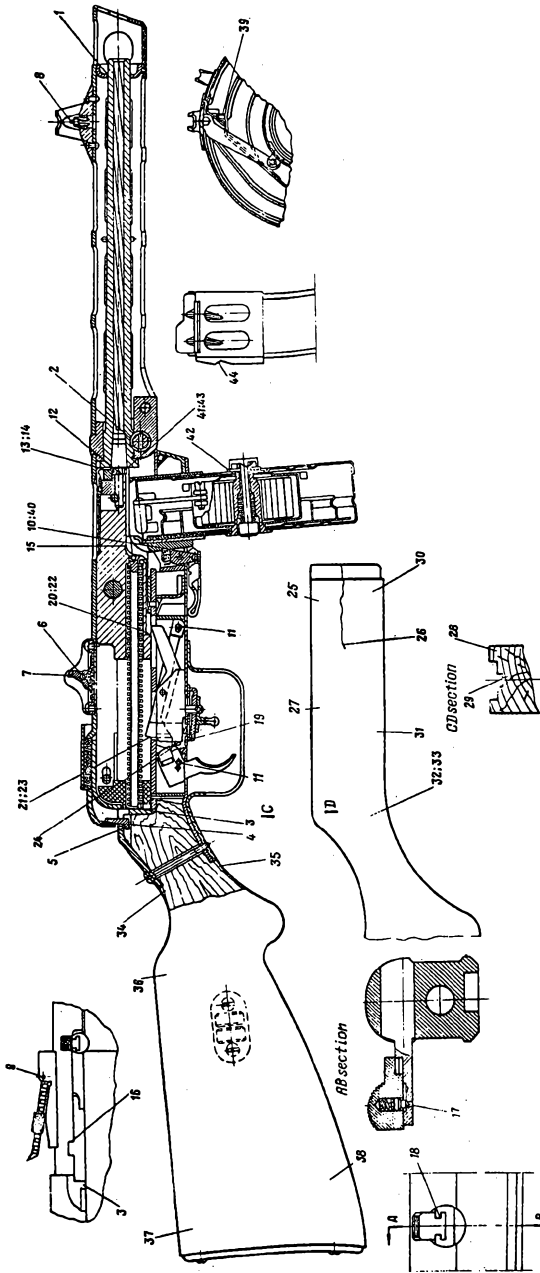

Figure 36. PPsh-41 section.
(1) First engage the lugs on the front of the trigger mechanism with the receiver; then swing the mechanism up into place. Retighten the screw.
(2) Insert the driving spring assembly into the bolt and place the buffer, flat side toward the bolt, over the spring. Place the tapered end of the driving spring assembly into the hole in the rear wall of the receiver and pull the bolt back, against the force of the driving spring, until it can be swung into position in the receiver.
(3) Swing the receiver shut and insure that the receiver catch is engaged.
b. The firing cycle starts with the bolt caught to the rear by the sear (fig 36). Pressure on the trigger causes the sear (21) to disengage from the bolt. The force of the driving spring drives the bolt forward. The feed rib on the bolt strikes the top cartridge in the magazine and drives the cartridge out of the magazine and into the barrel. The extractor snaps into the rim of the cartridge, and the fixed firing pin ignites the primer.
c. The recoil of the fired cartridge forces the bolt to the rear; this, in turn, compresses the driving spring. The fired cartridge case is held to the bolt by the extractor until the case strikes the fixed ejector (15); the case then swings around the extractor and is expelled. The bolt continues to the rear until it is stopped by the buffer; the driving spring then drives the bolt forward.
d. The sear, which holds the bolt cocked, is a pivoted, spring-loaded bar with a step (19) in its rear surface. The trigger has a forward-projecting, spring-loaded trigger pawl (24) mounted